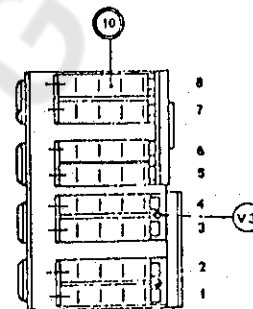

Fig. 27
2. **Insulating strips.** When replacing contacts, it is recommended that the insulating strips be replaced also. Using a screwdriver, remove two fasteners (4) retaining insulating strip (3). Replace strips using new fasteners.
C. **Auxiliary Contact Block (Fig. 27).** When removing contact blocks (1-4), place breaker in closed position before loosening contact cradle bolt V3. Slide cradle free of V3 and remove contact assemblies. To replace contact blocks, reverse procedure making sure wires are returned to their original positions.